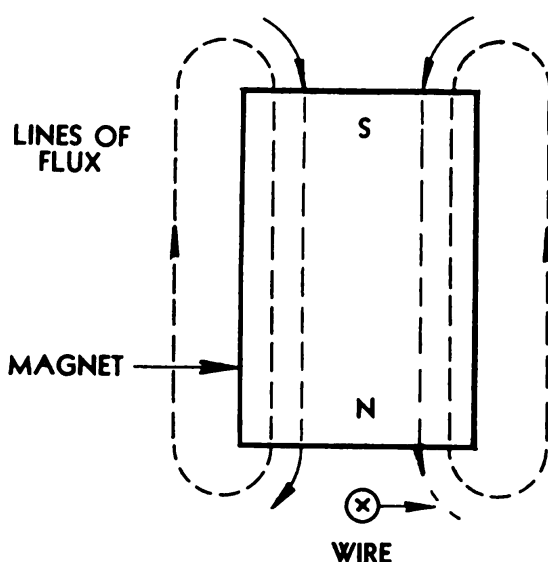

FIG. 13. GENERATOR THEORY—PERMANENT MAGNET
6. Generator theory.—*a.* Fig. 13 shows a permanent bar magnet, with lines of flux leaving the north pole and entering the south pole. If a wire is moved past the pole of the magnet at right angles to the pole, as shown, a voltage will be induced in the wire.